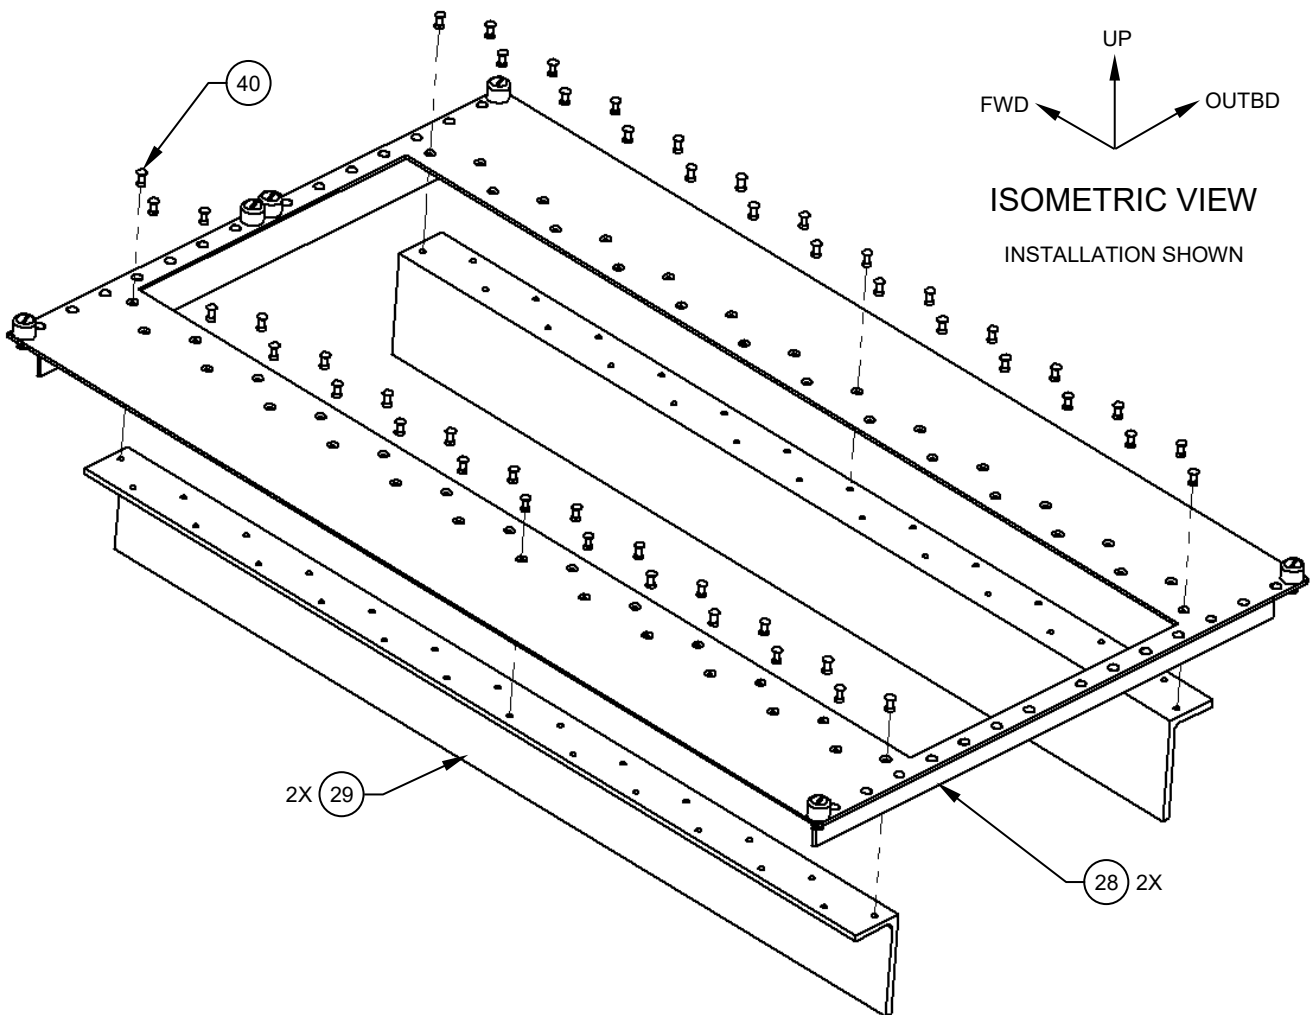

Figure 36
6.4.8. Measure the width and the combined height of all of the panel mount instruments to be installed and use that data to cut the opening in the face of the Panel Mount Plate, Assy, (Item 25). Regardless of the opening size in the face of the Panel Mount Plate, Assy, (Item 25), the length of the L Extrusion, Aluminum, (Item 29) should be so that there is **no more than a .030" gap** between the ends and the Angle, Detail, (Item 28). Plot an appropriate staggered rivet pattern on both pieces of the L Extrusion, Aluminum, (Item 29), drill thru for -3 rivets, Item 40. See Figure 36.
6.4.9. Position the L Extrusion, Aluminum, (Item 29), so that they are centered front to back and flush to the edges of the cutout in the face of Panel Mount Plate, Assy, (Item 25). Transfer the rivet pattern, countersink and rivet using the appropriate number of Rivet, Solid, Countersunk Head, (Item 40). See Figure 36.